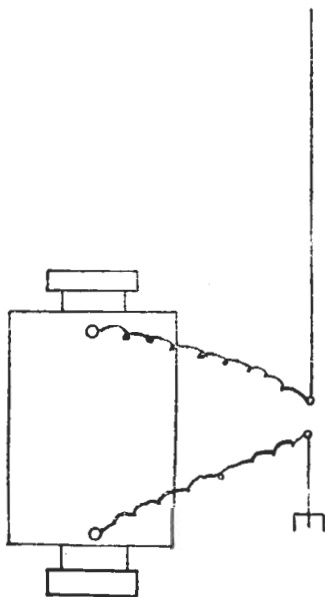

FIG. 33.
2. The great disadvantage of this system is the necessity of high insulation. Should the aerial in Fig. 33 be earthed, or nearer to an earthed object than the length of the spark-gap, no spark at the gap can be obtained. Consequently in wet weather great difficulties are often encountered.